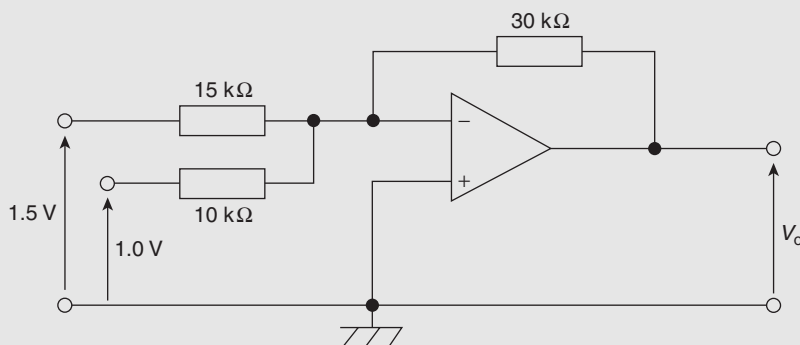

Figure RT5.1
- The power taken by a series inductive circuit when connected to a 100 V, 100 Hz supply is 250 W and the current is 5 A. Calculate (a) the resistance, (b) the impedance, (c) the reactance, (d) the power factor, and (e) the phase angle between voltage and current. (9)
- A coil of resistance  $20\ \Omega$  and inductance 200 mH is connected in parallel with a  $4\ \mu\text{F}$  capacitor across a 50 V, variable frequency supply. Calculate (a) the resonant frequency, (b) the dynamic resistance, (c) the current at resonance, and (d) the Q-factor at resonance. (10)
- A series circuit comprises a coil of resistance  $30\ \Omega$  and inductance 50 mH, and a 2500 pF capacitor. Determine the Q-factor of the circuit at resonance. (4)
- The winding of an electromagnet has an inductance of 110 mH and a resistance of  $5.5\ \Omega$ . When it is connected to a 110 V, d.c. supply, calculate (a) the steady state value of current flowing in the winding, (b) the time constant of the circuit, (c) the value of the induced e.m.f. after 0.01 s, (d) the time for the current to rise to 75 per cent of its final value, and (e) the value of the current after 0.02 s. (11)
- A single-phase motor takes 30 A at a power factor of 0.65 lagging from a 300 V, 50 Hz supply. Calculate (a) the current taken by a capacitor connected in parallel with the motor to correct the power factor to unity, and (b) the value of the supply current after power factor correction. (7)
- For the summing operational amplifier shown in Figure RT5.1, determine the value of the output voltage,  $V_0$  (3)